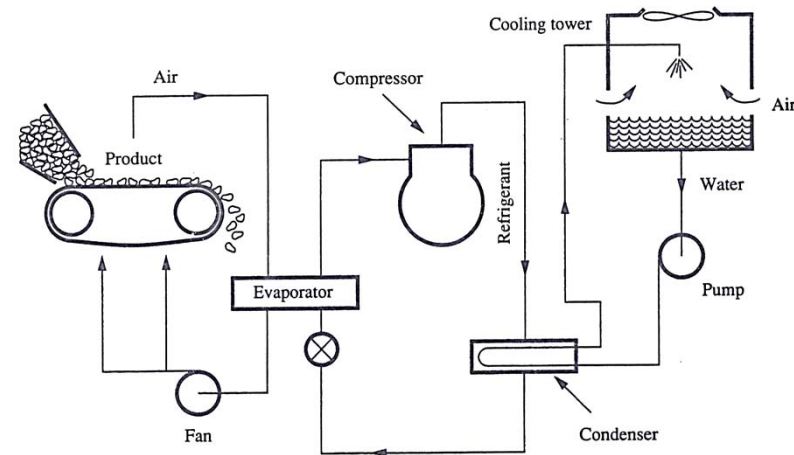

FIGURE 2-2
3. Concept of the plant (Fig 2-2)